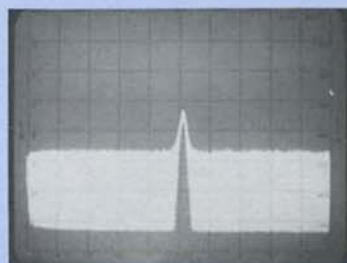
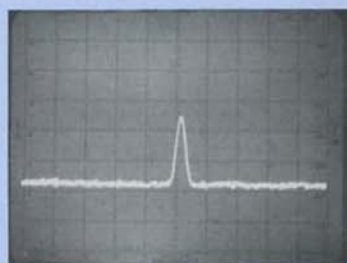

Figure 33A.
Figure 33B.
19. Tune FREQUENCY to higher order harmonic of source. Adjust amplitude so that signal almost disappears. Set LOG REF LEVEL so that peak level is in near-center screen. Set SCAN WIDTH to 0.2 MHz/DIV, BANDWIDTH to 30 kHz, and SCAN TIME to 50 msec/DIV. See Figure 33A. Signal is barely visible in the noise. Step VIDEO FILTER through the 10 kHz and 100 Hz positions. See Figure 33B. Note the improvement.